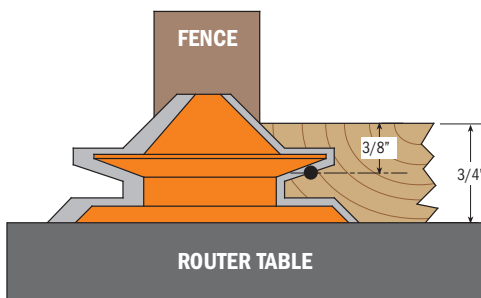

Fig. 1
Follow the instructions in Step 1 and Fig. 1 below for the first piece of stock, routing the joint with the inside face of the workpiece laid flat on the table and centered to the bit. To rout the second piece of stock, lay the workpiece flat on the table and centered to the bit with the inside face up.
Step 1: Rout the first piece of stock with the inside face down on the work table and the wood centered to the bit. Mill as shown in Fig. 1 of the illustration. Use pusher blocks or a pusher stick to control the workpiece, and use featherboards attached to both the fence and table to hold the workpiece in position.